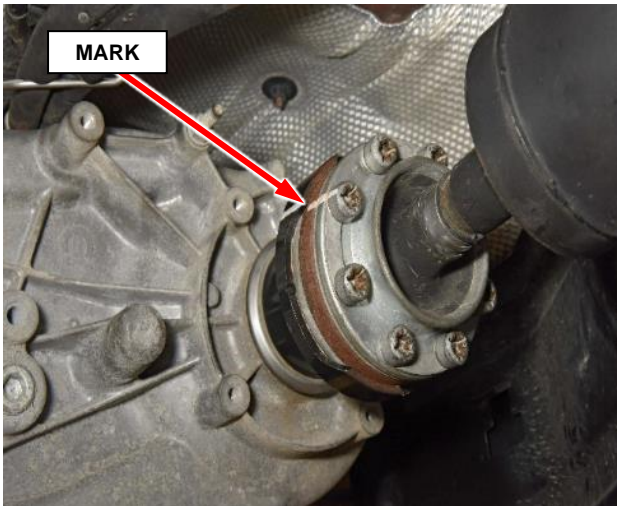

Figure 7 – Transfer Case Flange
18. Mark the transfer case rear flange and the propeller shaft for installation reference before removing the propeller shaft. Mark the transfer case front flange and the front propeller shaft before removing the propeller shaft (Figures 7 and 8).
19. Remove the rear drive shaft flange bolts at the transfer case and the bolts at the rear axle and remove propeller shaft and set aside (Figure 7).